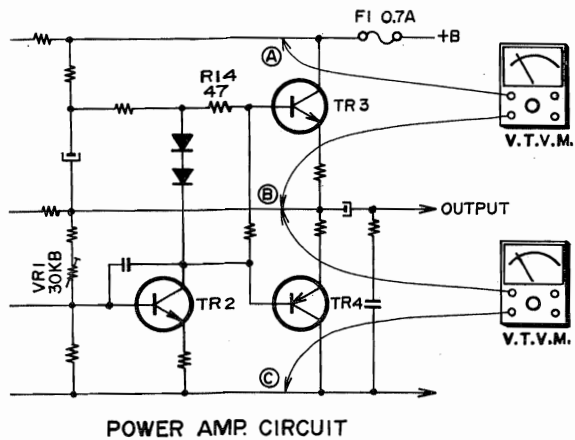

Fig. 32 POWER AMP. CIRCUIT
As shown in Fig. 32, connect a V.T.V.M. between points (A) (B) as well as between (B) (C) and adjust Variable Resistor VR1 (30 kΩ) so that the V.T.V.M. indication is half the value of the supply voltage. There is no way to adjust the "no signal current" but the correct "no signal current" is 5 mA. When a power transistor is replaced and a signal introduced, if cross-over distortion is considerable, it can be reduced by Changing Resistor R14 47 to about 33.